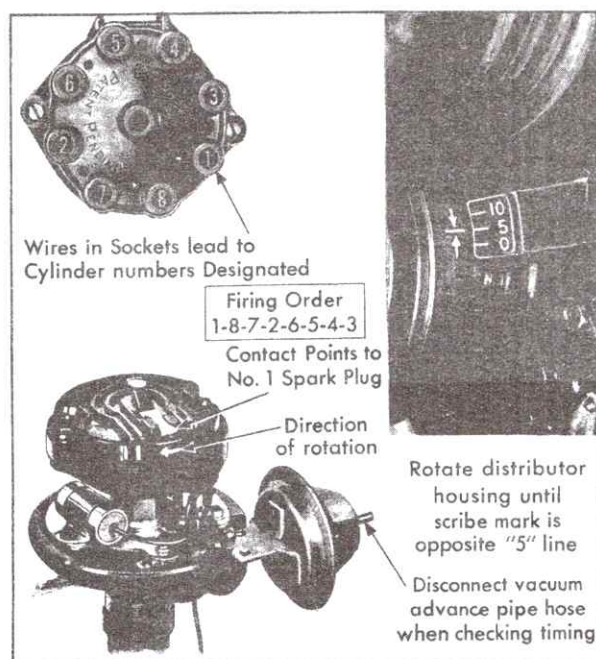

Fig. 6-23 Ignition Timing Adjustment
9. Observe timing light flashes on harmonic balancer in relation to degree marks on front cover. Rotate distributor so that light flashes when scribe mark and "5" mark are aligned. The "5" mark is five degrees ahead of top dead center, Fig. 6-23.